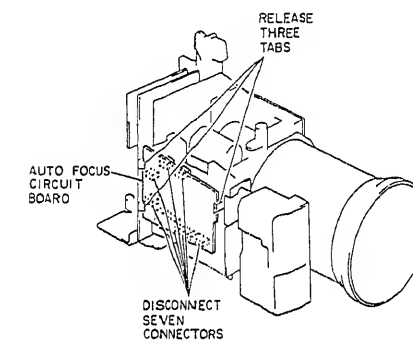

Fig. 2-12
1. Release three (3) tabs holding the auto focus circuit board. (See Fig. 2-12)
2. Disconnect seven (7) connectors (CN01AF, CN02AF, CN03AF, CN04AF, CN05AF, CN06AF, CN07AF) on the auto focus circuit board.